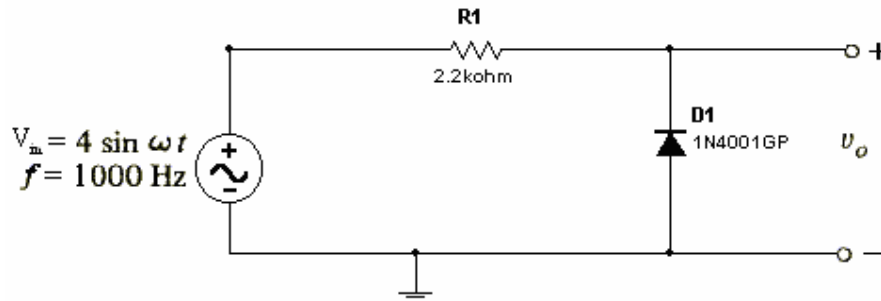

Fig.5: Half-Wave Rectification
9. Construct the circuit of Figure 5. Record the measured value of the resistor R_1 .
10. Repeat steps (2) and (3) for Figure 5.
11. What is the most noticeable difference between the waveform of output voltage V_O obtained in part 2 and that obtained in step (2).